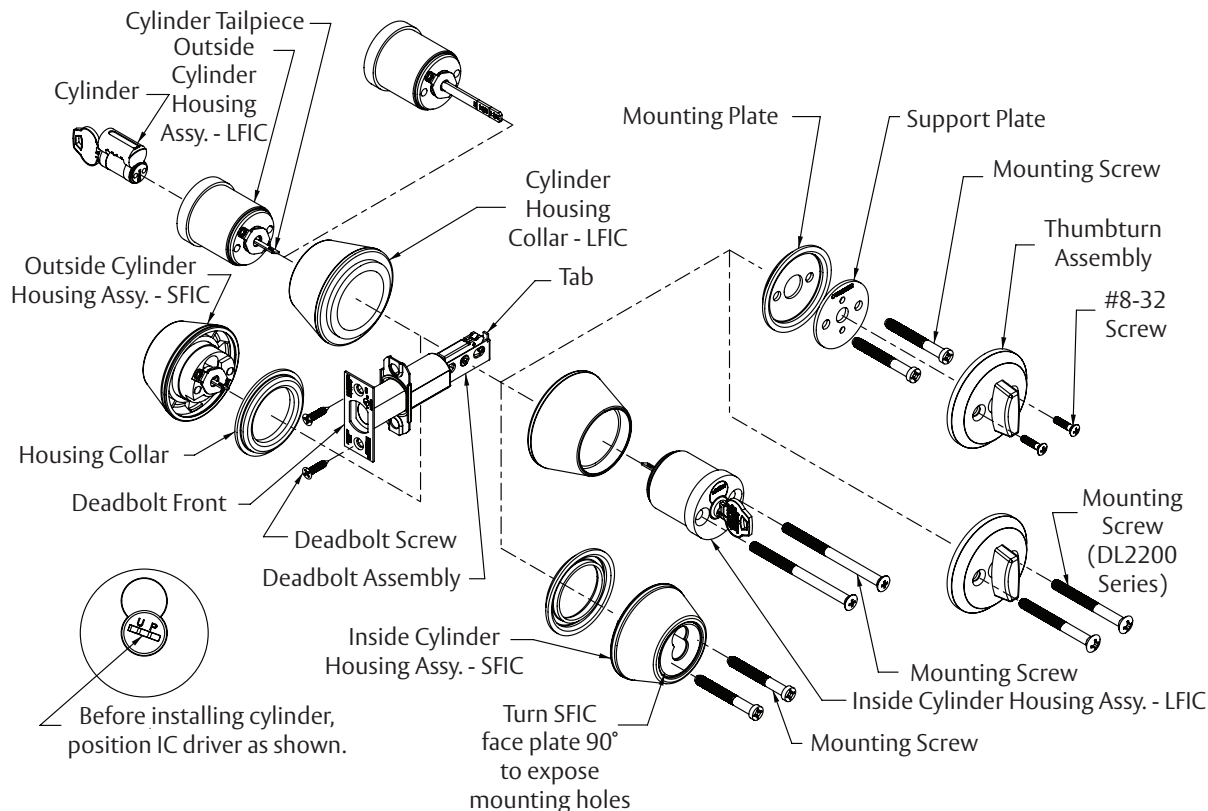

Figure 6
- Insert deadbolt unit into hole in door edge, making certain that tab on deadbolt is facing up as shown in Figure 6.
- Fasten deadbolt front and deadbolt assembly to door with two (2) deadbolt screws.